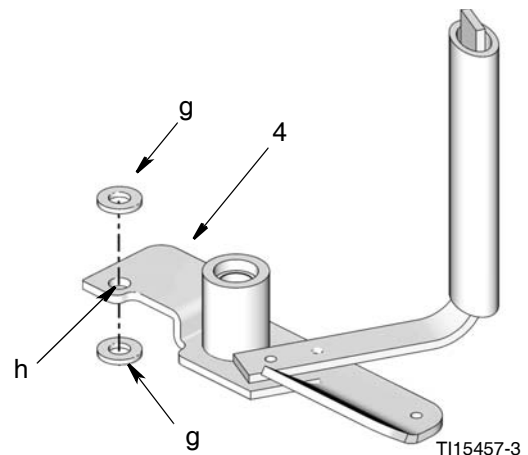

FIG. 8
- a. Align washers (g), with hole in the base (h) of the stirring paddle (4). One washer should be on the top of the hole and one on the bottom (underside) as shown in FIG. 8.